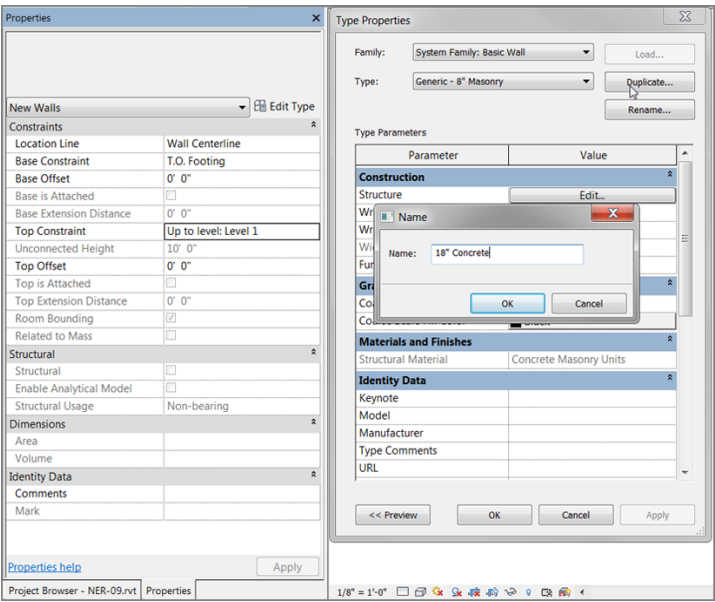

FIGURE 8.50: Adding a structural wall
6. Name the new wall 18” Concrete (450mm Concrete) as shown in Figure 8.50.